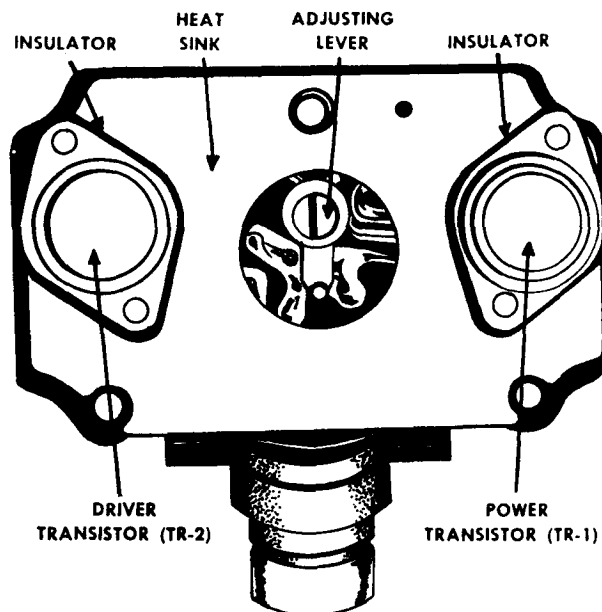
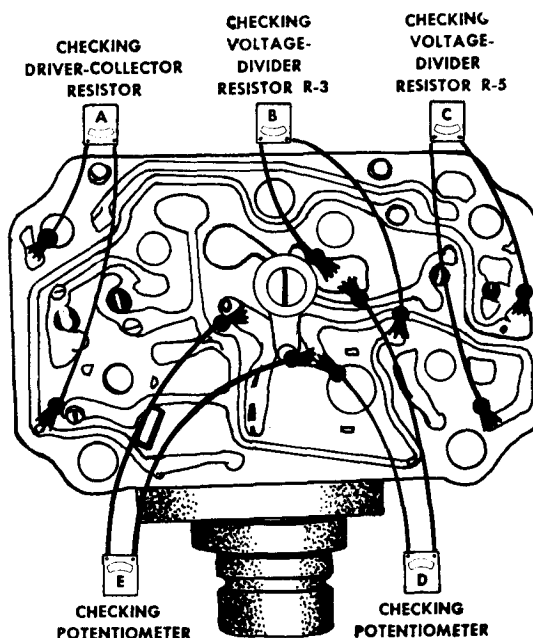
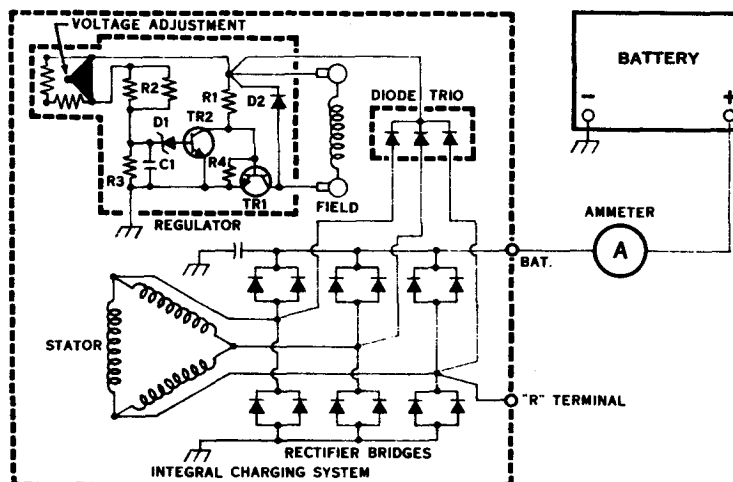

Figure 19—Panel board and heat sink assembly.
Figure 22—Checking components.
Figure 3—Typical wiring diagram showing internal circuits. (Two-rectifier bridge type)
3. To aid in reassembly, note any identifying markings on the two transistors and their respective locations on the panel board and heat sink assembly. (Fig. 19)
4. Note the insulators between the transistors and the heat sink, and the insulators separating the heat sink from the panel board. (Fig. 19)
If a component part on the panel board is found to be faulty, it should be replaced before proceeding with the remaining checks. A 25 watt soldering gun is recommended, and a 60% tin 40% lead solder should be used when re-soldering. Avoid excessive heat which may damage the panel board. Chip away any epoxy involved, and apply new epoxy which is commercially available. The component parts are identified in Figures 19 and 20, with the symbols also shown in Figures 3 - 8.
Driver-Collector Resistor, Part A, Fig. 22: If both readings are infinite, the resistor is open.
Voltage-Divider Resistor R-3, Part B, Fig. 22: If one reading is infinite or nearly infinite, or if both readings are infinite or nearly infinite, the resistor is open.
Voltage Divider Resistor R-5, Part C, Fig. 22: If one reading is infinite or nearly infinite, or if both readings are infinite or nearly infinite, the resistor is open.
Potentiometer, Parts D and E, Fig. 22: If one reading is infinite or nearly infinite in Part D, the potentiometer is open. If both readings are infinite in Part E, the potentiometer is open. **NOTE:** When installing a new potentiometer mount on the panel board, and turn the potentiometer adjustment to the middle position. Then, after all tests have been completed and the unit has been reassembled as shown in Figure 19, connect to a generator and adjust the potentiometer to 14 volts. Then, with the adjusting lever in the vertical position (Fig. 19) use a soldering iron to melt the adjusting lever into the potentiometer.
Typical wiring diagrams are illustrated in Figures 3 and 4. The basic operating principles are explained as follows.